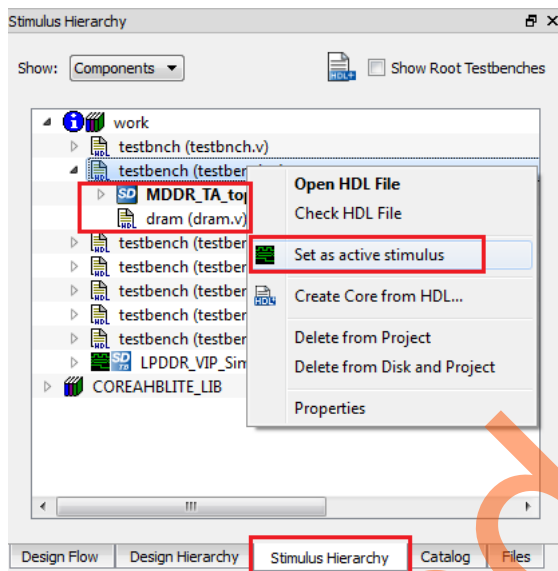

Figure 14 • Stimulus Settings
5. Set the testbench in which LPDDR memory model is instantiated as active stimulus. Figure 14 shows the settings under Stimulus Hierarchy.